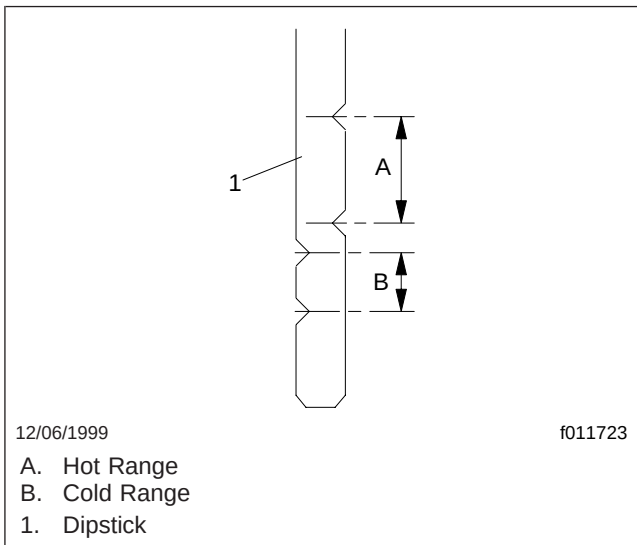

Fig. 17, ATF Dipstick, Aisin Transmission
- 11.5 If the ATF temperature is between 68 and 86° F (20 and 30° C), the fluid should measure in the COLD range. See Fig. 17.
- 12.5 If the ATF temperature is between 158 to 176°F (70 to 80°C), the fluid should measure in the HOT range. See Fig. 17.